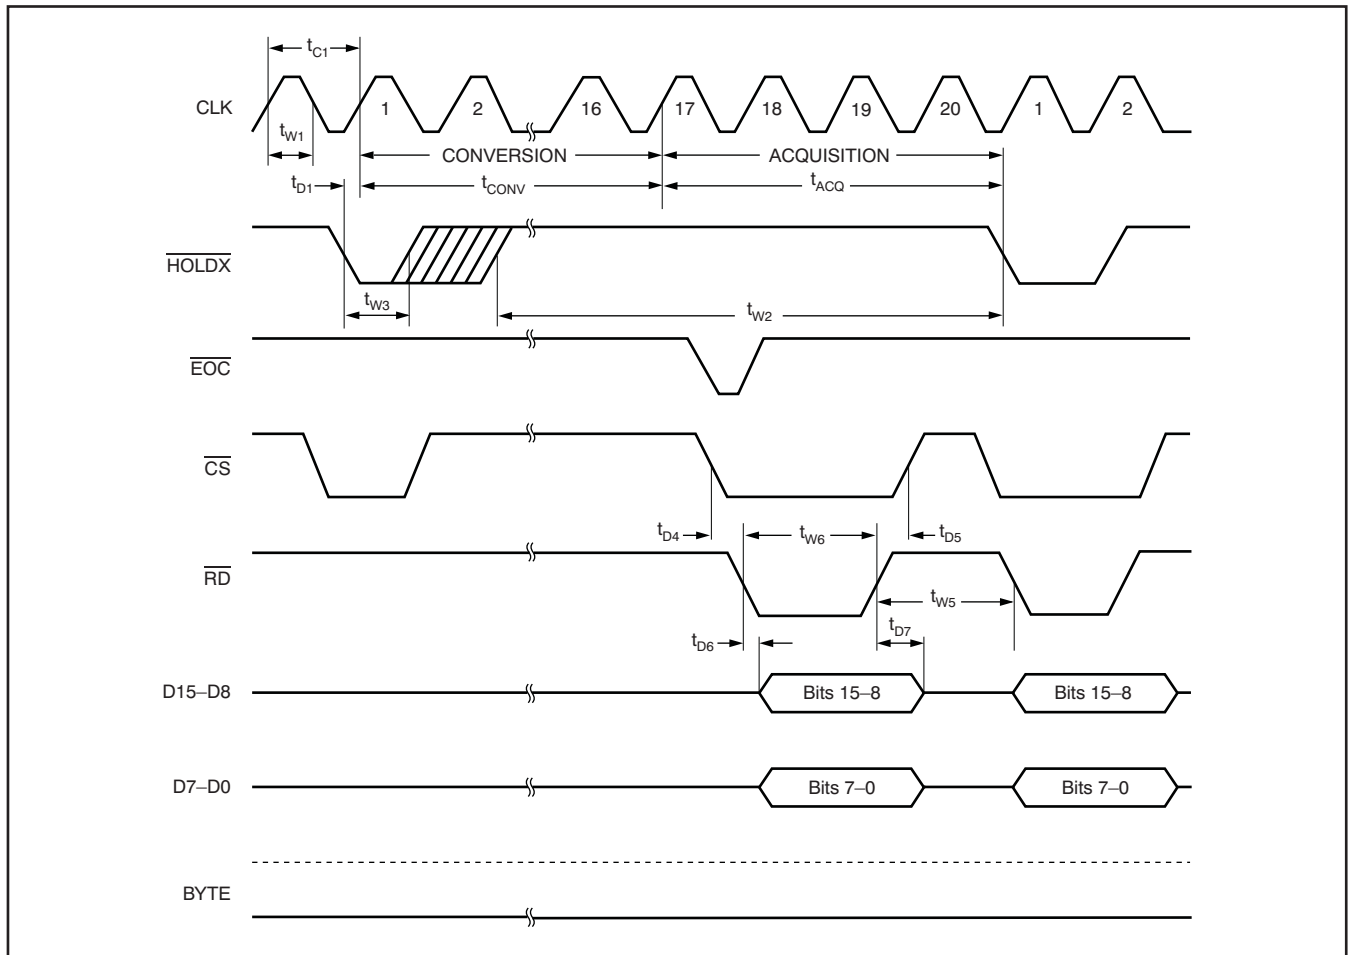

Figure 1. Read and Convert Timing
- (1) Assured by design.
- (2) All input signals are specified with rise time and fall time = 5ns (10% to 90% of  $BV_{DD}$ ) and timed from a voltage level of  $(V_{IL} + V_{IH})/2$ .
- (3) See Figure 1.
- (4) BYTE is asynchronous; when BYTE is 0, bits 15 to 0 appear at DB15 to DB0. When BYTE is 1, bits 15 to 8 appear on DB7 to DB0.  $\overline{RD}$  may remain LOW between changes in BYTE.
- (5) Only important when synchronization to clock is important.